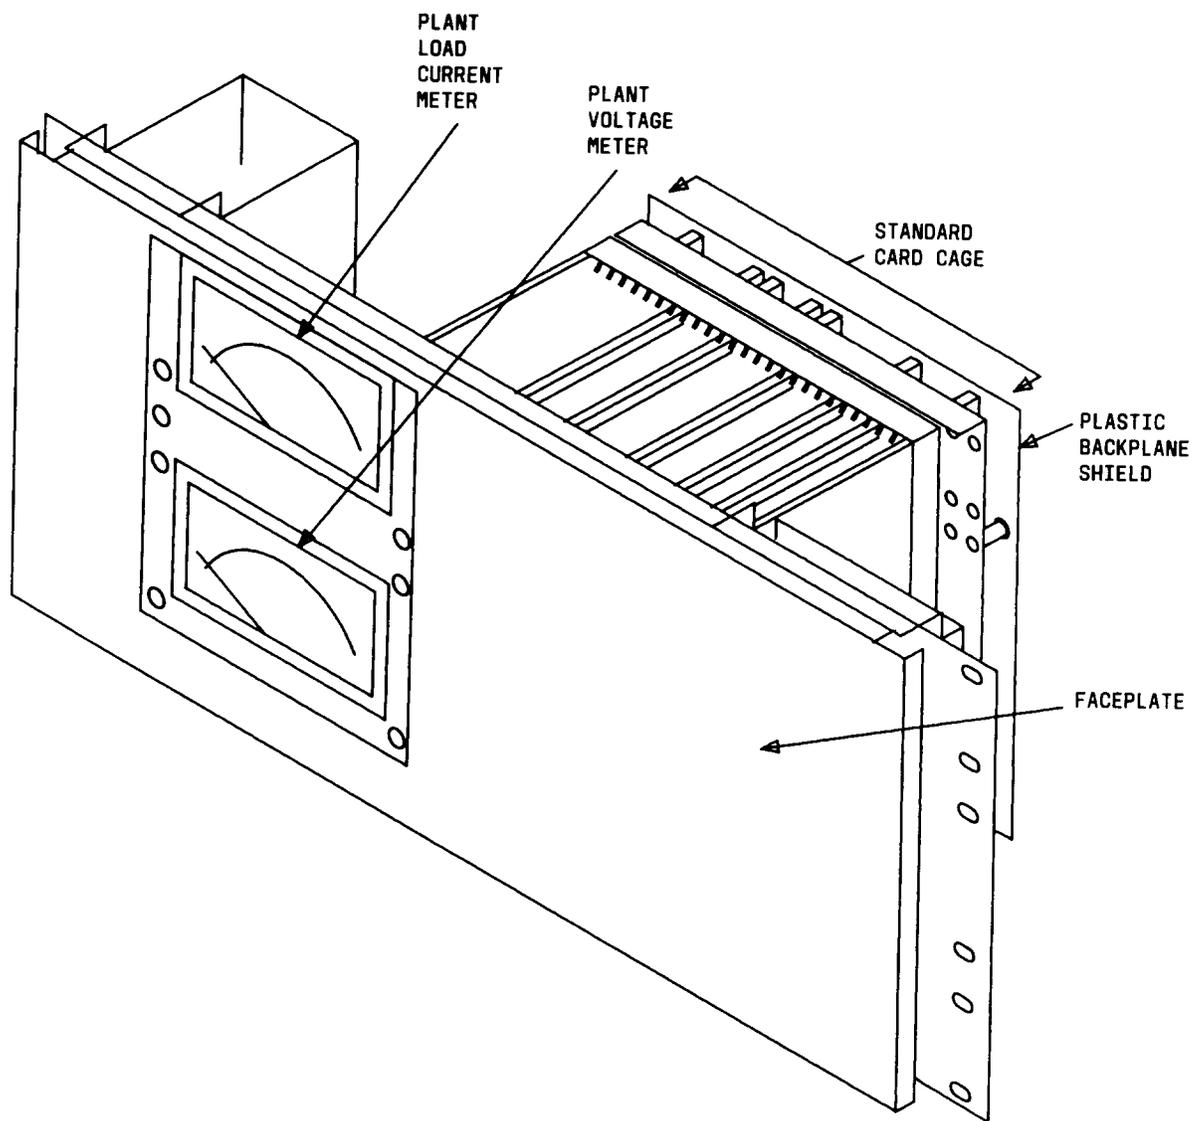

Fig. 3—Conventional Plant Controller
**2.03** The conventional plant controller (Fig. 3) measures 9 inches high, 26 inches wide, and 12 inches deep. The front panel contains the PLANT VOLTAGE and PLANT LOAD CURRENT analog meters. Test jacks [VM CAL (+) and (-)] are located on the front panel for PLANT VOLTAGE meter cali-